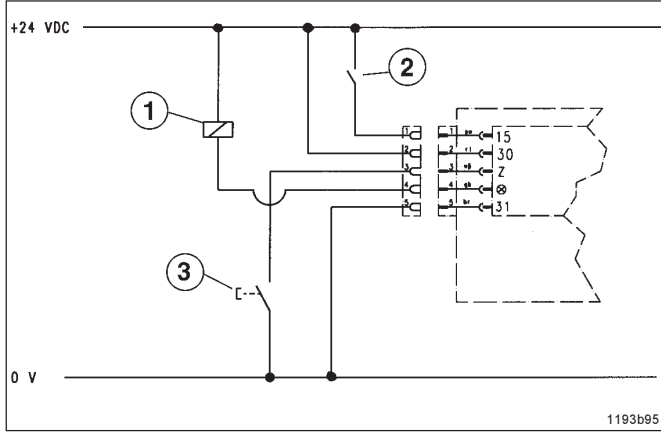
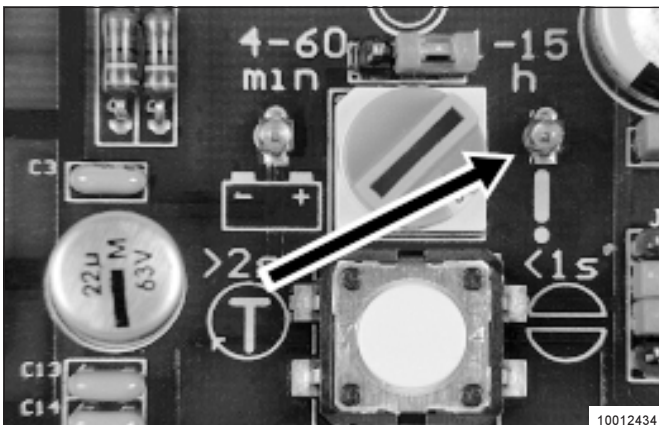

Fig. 1 - Supply voltage and machine contact
Fig. 11- LED display for the monitoring time or fault indication
- Indication of the time of availability: external relay 1 (Fig.1) has picked up, LED (Fig.11) is lit.
- The central lubrication system is monitored, i.e. the readiness for service and faults are indicated (**industrial applications** : permanent signal, see LED fig.11).
Readiness for service O.K. (there is no fault)	Is picked up LED (Fig. 11) is lit permanently
- The machine contact (external contact) is used for the activation as a function of auxiliary units or drives, etc.. See Fig. 1.
- The LED (Fig. 11) is lit.
- If there is **no switching off signal** from the piston detector to the printed circuit board within 5 or 30 minutes, a **fault signal** will occur. The LED (Fig. 11) is extinguished and the pump stops operating.